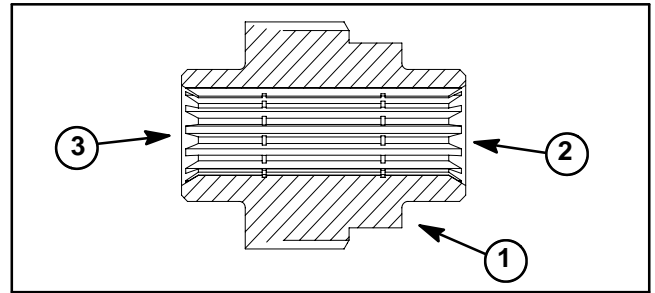

Figure 2
1. Slide splined brake coupler into brake assembly. **NOTE:** The stepped end of the coupler must be installed toward the hydraulic wheel motor (Fig. 2).
3. Install four (4) flange head screws to secure brake assembly to frame. Torque screws in a crossing pattern from **75 to 85 ft-lb (101 to 115 N-m)**.